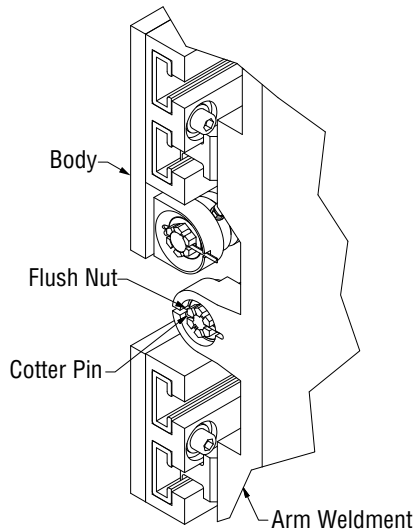

Figure 5-3, Arm
1. Extend the arms outside of the body. Remove the cotter pin retaining the flush nut. Remove the flush nut. (Figure 5-3)